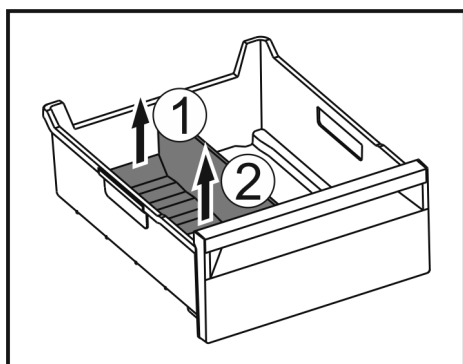

Fig. 99
- Lift the rear part of the ice compartment divider. Fig. 99 (1)
- Remove the ice compartment divider upwards. Fig. 99 (2)